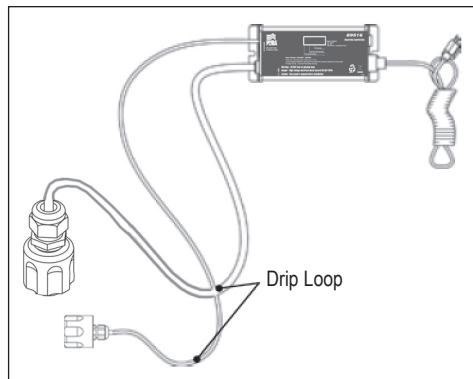
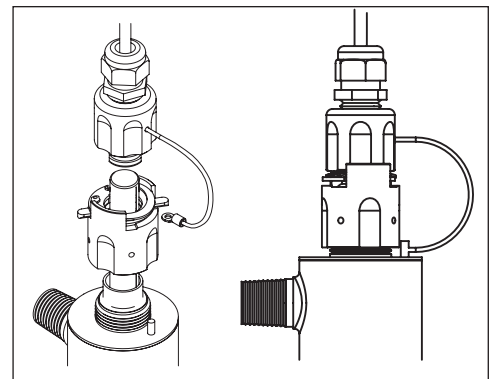

Figure 1D
Figure 1E
- The ballast should be mounted either above or beside the reactor chamber. Never mount vertically with AC connector at top of ballast to prevent moisture from running down cordage and causing a potential fire hazard. Drip loops in all cordage connected to ballast controller is highly recommended (see Figure 1D).
4. Mount the controller horizontally on the wall, near the reactor chamber. Ideally place the controller above the reactor and away from any water connection point, to prevent any water from potentially leaking onto the controller by means of a leak at a connection point or a 'sweating' system. Make sure you allow for a 'drip-loop' (Figure 1D) on the lamp, sensor and power cord (prevents water from potentially entering the controller). Affix the green ground wire to the grounding lug at the top of the reactor vessel and securely fasten with the lugnut provided (Figure 1E).